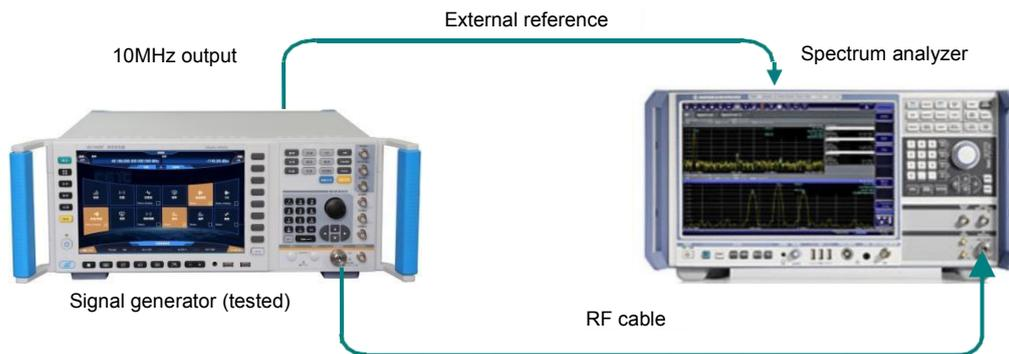

Fig.7.6 Low Power Test
**Step 3. Connect the spectrum analyzer to the signal generator as shown in Fig.7.6. Set the power of the signal generator to 0 dBm. Set this level to the reference level and use the spectrum analyzer relative measurement mode to set the signal generator power to the minimum ALC power. Use the spectrum analyzer to test relative difference P2 of its minimum ALC power relative to 0 dBm (P1 + P2 is the measured value of the minimum ALC output power) and record the measured value on the test record table.**
**Step 5. Connect the spectrum analyzer to the signal generator as shown in Fig.7.6. Set the signal generator power to 0 dBm, attenuate to the minimum indicated power P2 with the step of 10 dB, and test the relative difference P3 between the power at each frequency point and 0 dBm.**